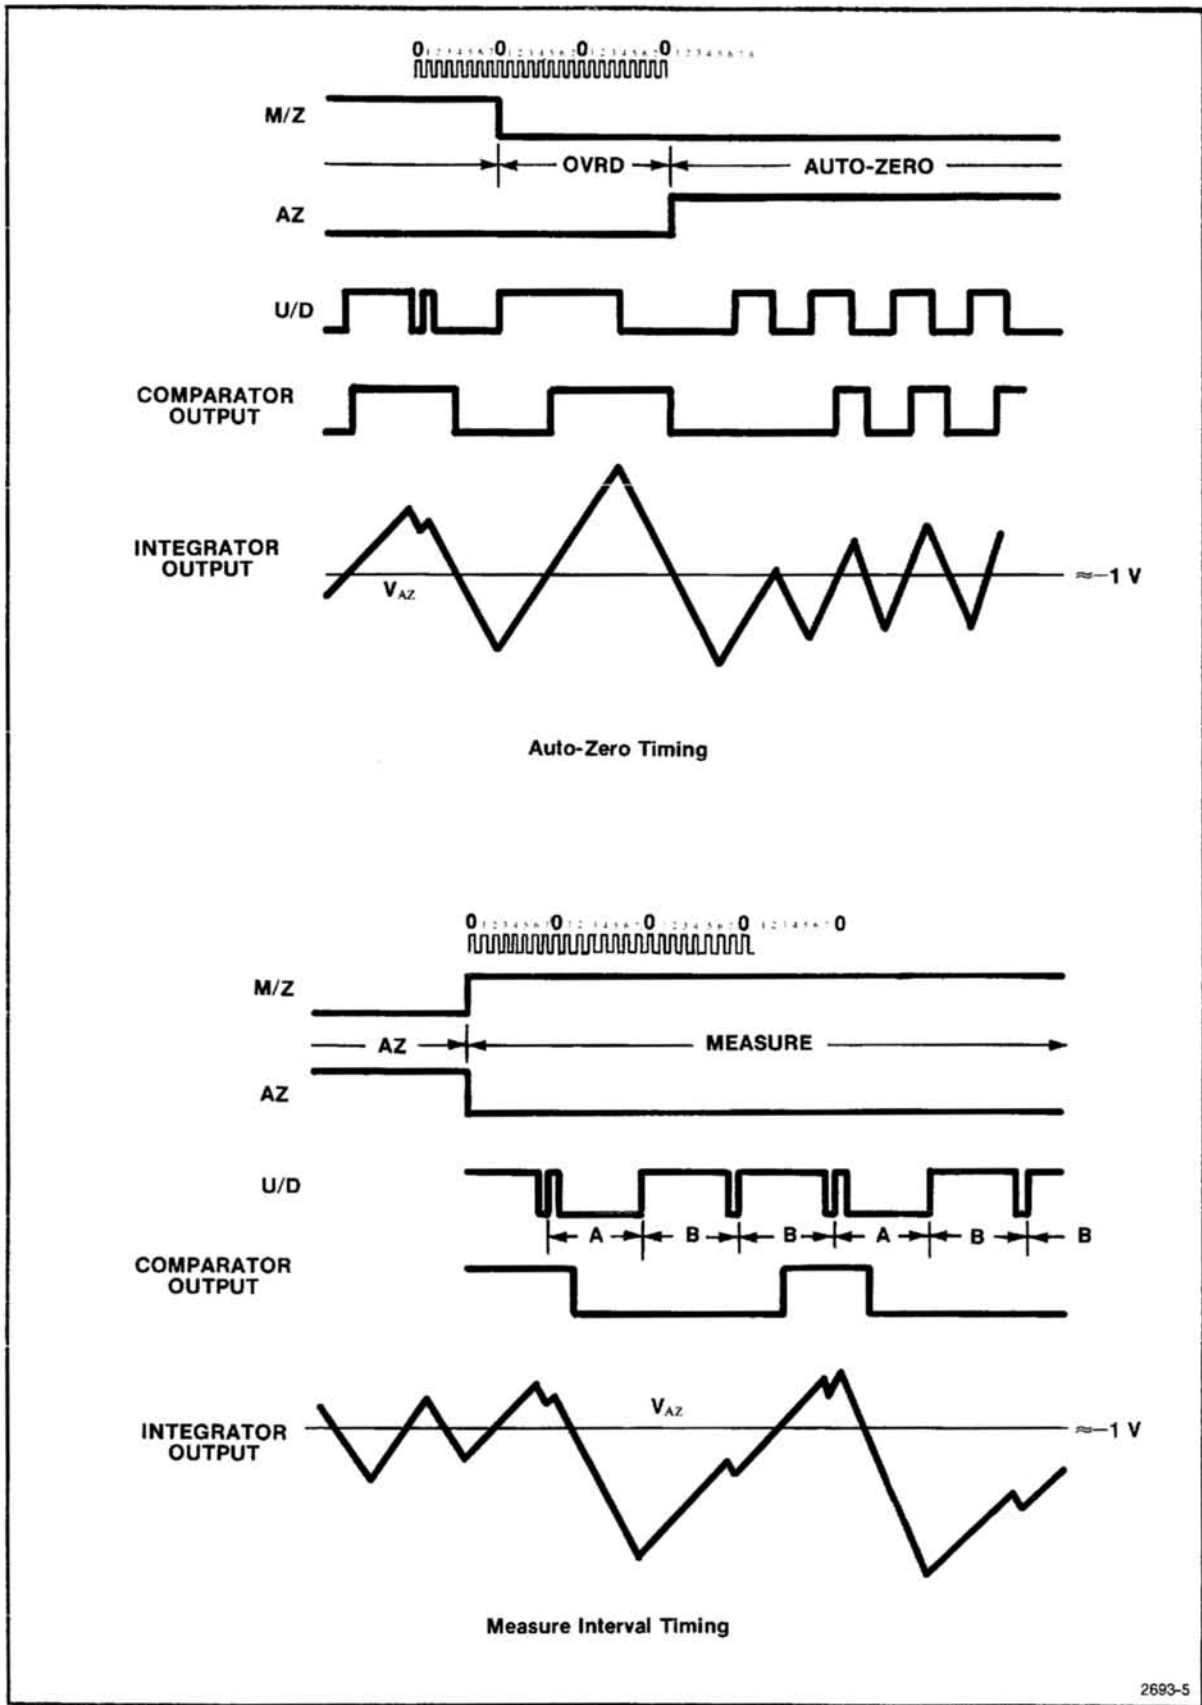

Fig. 3-1. Auto-zero and measurement interval timing sequences.
The digital control logic in U1461 feeds units of charge (controlled by an analog comparator) to the integrating capacitor, C1432. This charge balances the charge supplied to the integrator by the analog input voltage. The sign of the charge fed back depends on the two up-down duty cycles available during the measurement interval as shown in Fig. 3-1. The comparator output is high when the charge on C1432 is above approximately -1 V and low when the charge is below approximately -1 V. The clock for the converter is generated by U1611. Potentiometer R1523 is adjusted for a frequency of 20.48 kHz. The up-down logic is high for 1 clock cycle and low for 7 clock cycles for a high comparator output in the clock cycle preceding the set of 8 cycles just described. This is designated duty cycle A. When the comparator output is low in clock cycle 7, the up-down logic is high for 7 cycles and low for 1 cycle during the 8 clock cycles following duty cycle A. This is shown as duty cycle B. The bottom waveform in Fig. 3-1 shows the effect of these two reference current duty cycles on the integrator output (pin 11 of U1461). When the up-down logic is in the high state (duty cycle B), the integrator output voltage rises. The bcd counter in U1311 increments by each clock pulse when the up-down logic is high and decrements by each clock pulse when the up-down logic is low. The net count increases by 6 counts for the B duty cycle and decreases by 6 counts for the A duty cycle.
Referring to Fig. 3-1, during the auto zero (AZ) interval the offset voltages generated in the internal amplifiers are nulled. A tracking reference voltage is automatically established. This voltage is necessary for bipolar conversion. The auto zero sequence is initiated when the measure-zero (M/Z) signal from U1311 switches the input buffer amplifier to ground. After a brief count correcting override period, the auto zero amplifier and integrator are connected together. During this time, the control logic in U1311 ignores the comparator output and pulses the internal up-down switch of U1461 at a 50% duty cycle (4 clock periods up and 4 clock periods down). Equilibrium of this system is attained when the average currents through R1458, R1443, and R1455 are equal and opposite. The auto zero voltage is thus established and stored on C1562. This is approximately -1 V and is noted on Fig. 3-1. This auto zero voltage stored on C1562 establishes a reference voltage for the up-down (U/D) logic to switch either a plus or minus reference current to the integrator during conversion. When the up-down line (U1461, pin 4) is high, the reference voltage is positive. The auto zero time interval is sufficient to ensure that the auto zero voltage is well established.